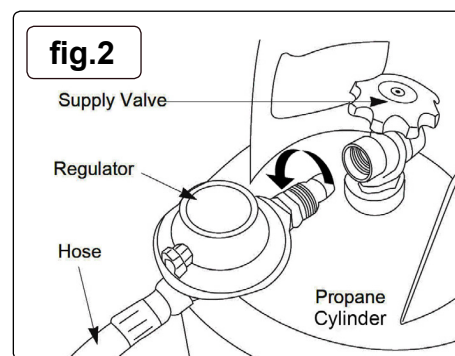

fig.2
- 4.1.2. With the cylinder supply valve turned off, connect the regulator to the cylinder; this is a left hand thread - turn anticlockwise (fig.2).